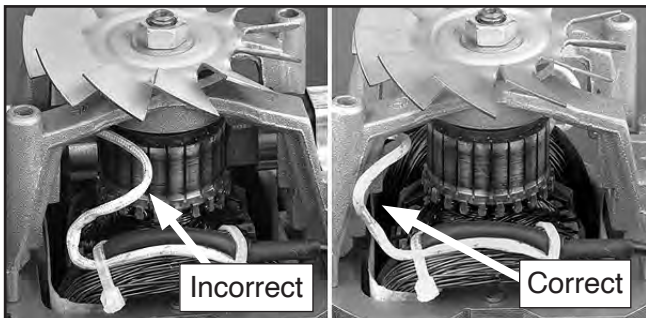

Figure 42. Safe power wire routing.
13. When the brush housings are installed, make sure to route the brush power wires well away from the commutator, as shown in **Figure 42**, or the commutator will wear into the wire, causing an electrical short.